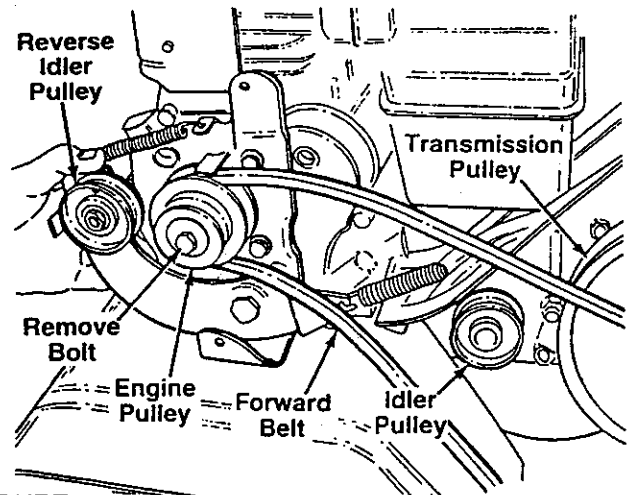

FIGURE 16
2. Lift belt off the idler pulley and transmission pulley. See figure 16.
3. Using a 9/16" wrench, remove bolt from engine pulley. See figure 16.
4. Push reverse idler pulley bracket forward, and remove engine pulley and belt. See figure 16.